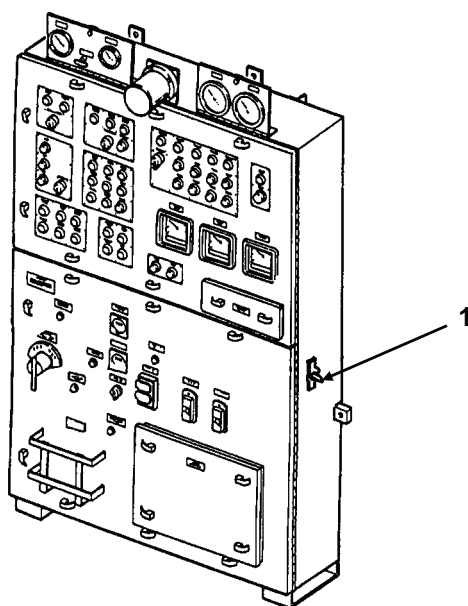

Figure 13. High Pressure Pump Jog Switch (Model ROWPU-1 Only)
High Pressure Pump Jog Switch (Model ROWPU-1 Only) (Figure 13). To prevent cracking of high pressure pump housing during freezing conditions, Model ROWPU-1 has been equipped with a jog switch (1) used to momentarily jog high pressure pump to remove any water that may have been left in the pump housing during shutdown. Model WTA-060 does not have this switch.